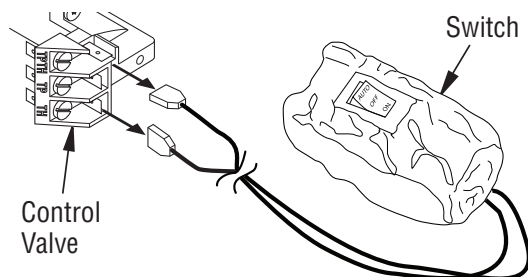

Figure 19- Disconnecting Switch from Control Valve
6. If installed, disconnect AUTO/OFF/ON switch wire from control valve at TPTH and TH locations (see Figure 19, Page 17).
7. Connect wires from hardware pack (with remote receiver bracket) to control valve at the TPTH and TH locations as shown in Figure 19, Page 17. Connect other ends of these wires to remote receiver wires.